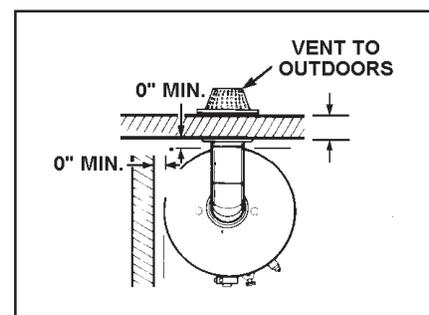

FIGURE 3
**MINIMUM CLEARANCES BETWEEN THE WATER HEATER AND COMBUSTIBLE AND NONCOMBUSTIBLE CONSTRUCTION ARE: 0 INCHES FROM SIDES, 0 INCHES FROM BACK, 4 INCHES FROM FRONT OF JACKET TO CLOSET DOOR AND 3 INCHES FROM TOP OF JACKET TO COMBUSTIBLE AND NONCOMBUSTIBLE MATERIAL. MINIMUM VENT CLEARANCE: 0 INCHES. PROVIDE 24 INCHES FRONT CLEARANCE FOR SERVICING AND ADEQUATE CLEARANCE BETWEEN THE JACKET TOP & CEILING FOR SERVICING THE FLUE AREA, SEE FIGURES 3 AND 3A.**